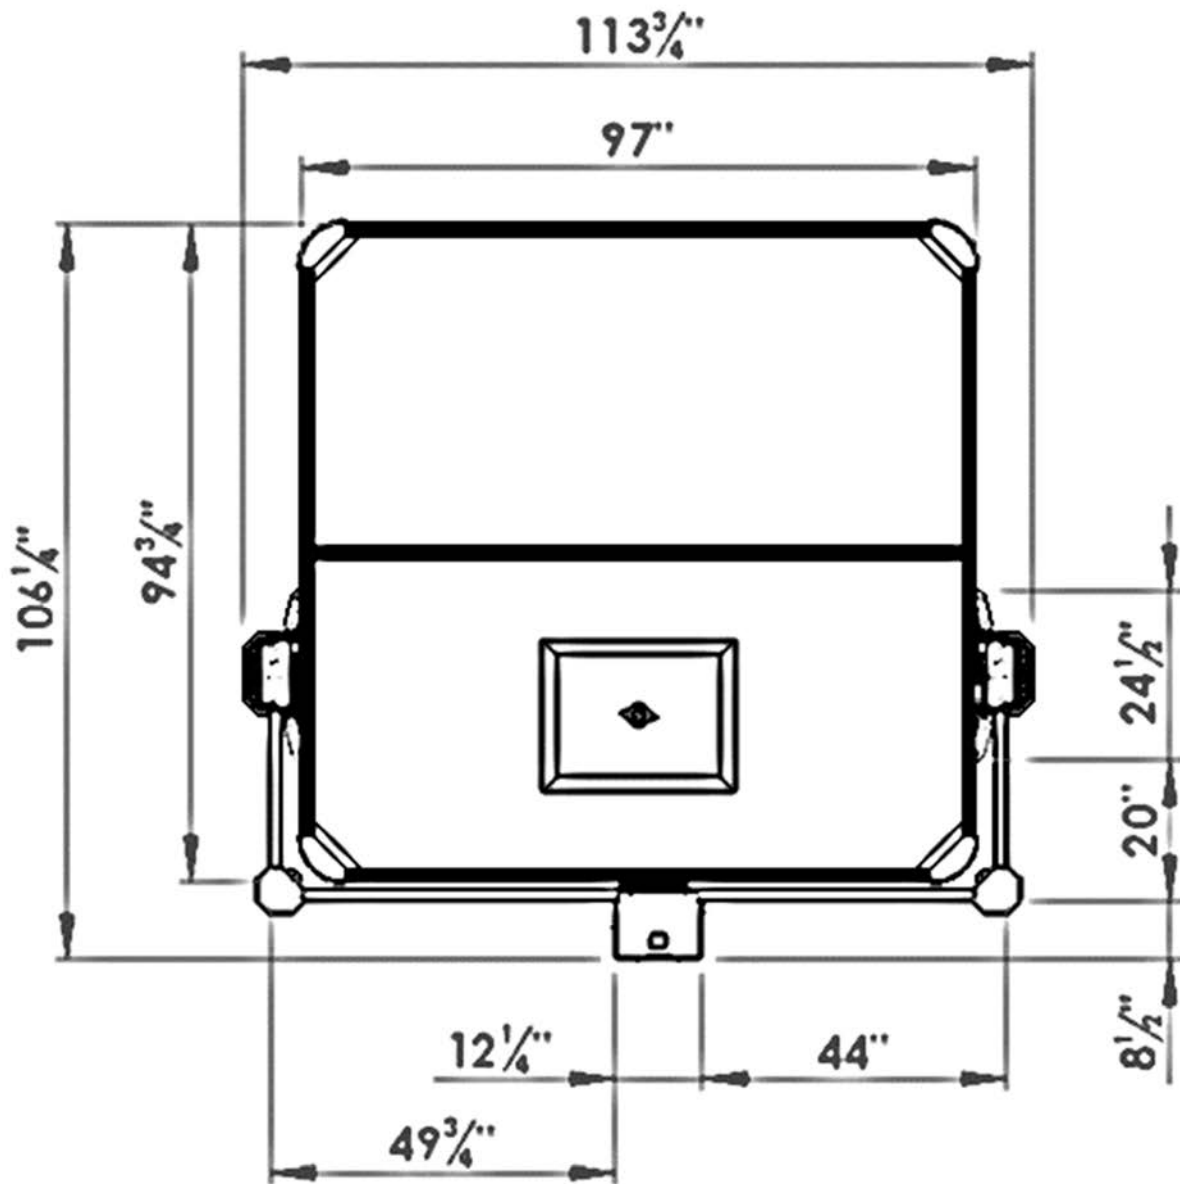

Figure 109
- 3) Remove the slotted retaining screw and slide the cam plate out from operator frame. (Figure 109) (Be careful not to move the cam wheels.)